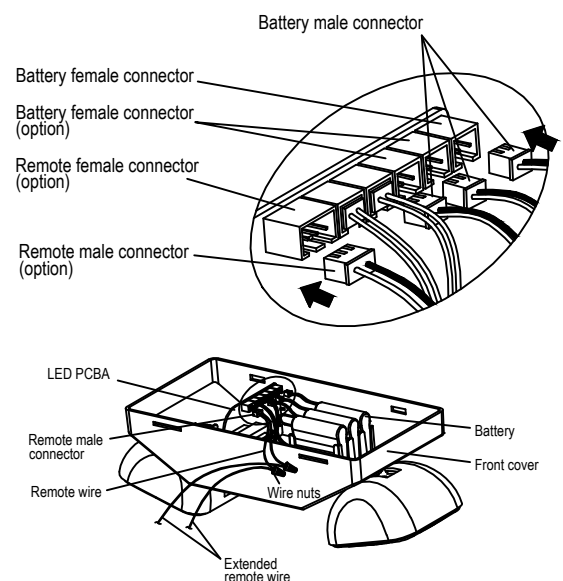

Fig 5
7. Plug battery male connector into battery female connector on PCBA.(see Fig 5).
## Connecting Remote head (option) (see Fig 5)